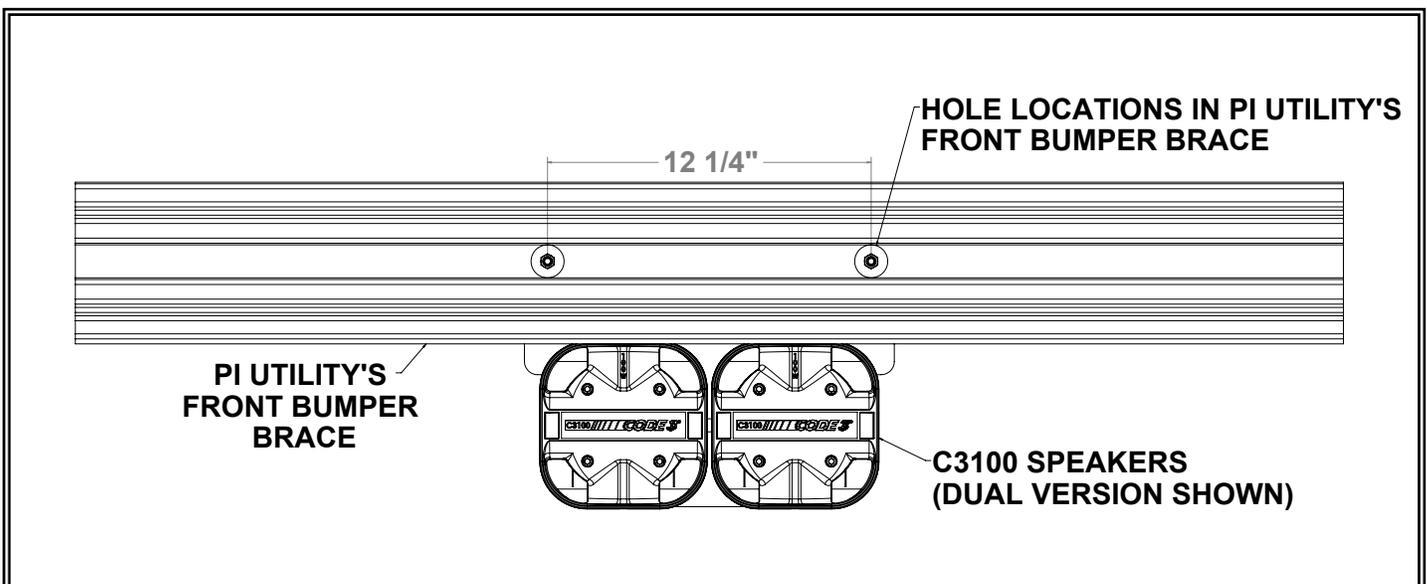
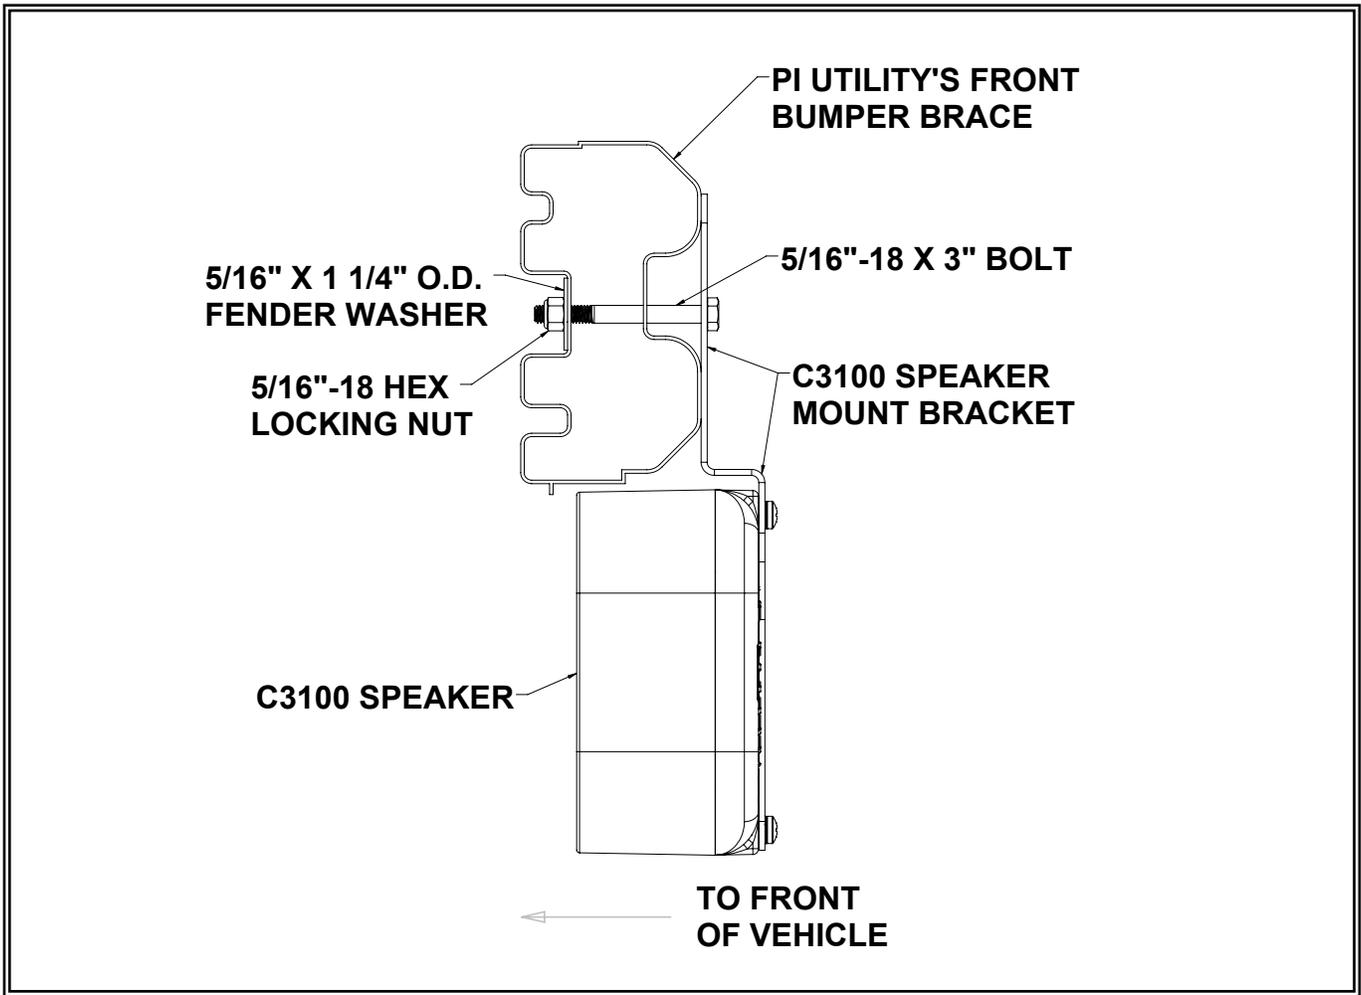

Figure 3 Front View
Figure 4 Cross Sectional View
Step 3. Note the (2) existing holes that are 12 1/4 inches apart in the PI Utility's front bumper brace (See Figure 3 Front View below). Position the speaker assembly with the speakers facing forward on the vehicle and slip the mounting flange up behind the PI Utility's bumper brace (The back side of the brace is flat while the front side is curved to match the curvature of the front fascia). Align the (2) holes in the speaker bracket mounting flange with the holes in the PI Utility's bumper brace and slip the (2) provided 5/16"-18 X 3" long stainless steel bolts from the back side through the holes in the bracket and through the holes in the vehicle's bumper brace. Slip a provided 5/16 I.D. X 1 1/4" O.D. fender washer over the threads of the bolts and thread a provided 5/16" hex locking nut onto each of the bolts. See Figure 4 on page 3 for a cross section view of the assembly.